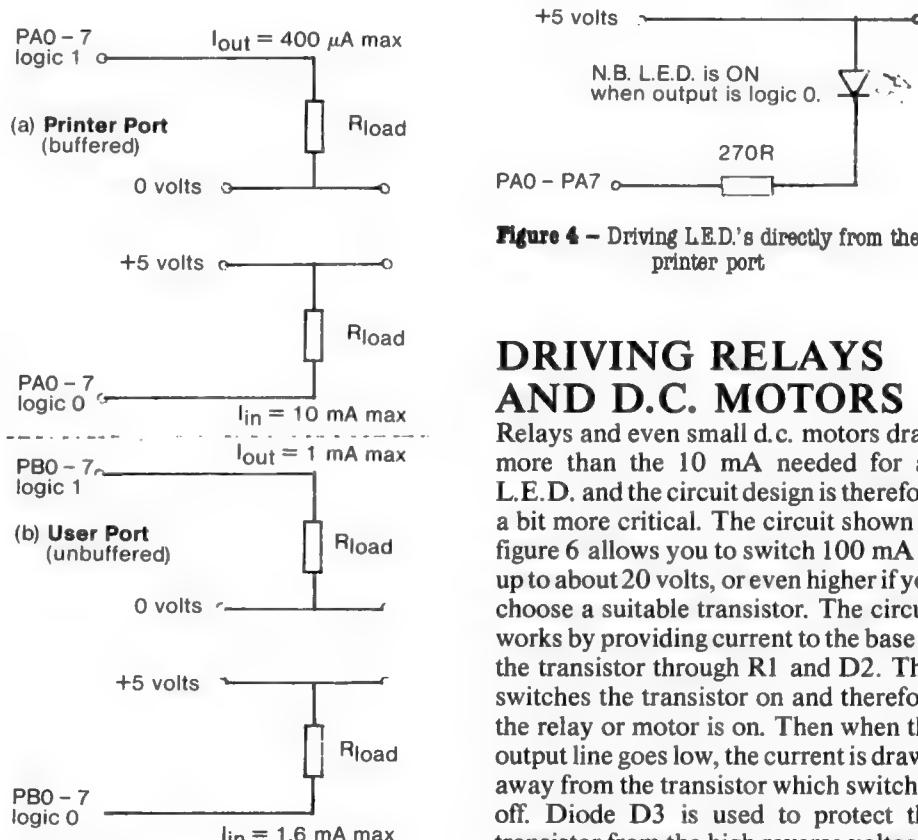

Figure 3 - Current capabilities of the printer and user ports
0) then the corresponding bit is an input. In the example given in figure 3, all of PA is being used for output, as of course in this machine it has to be, and this is done by putting 255 (&FF or binary 11111111) into DDRA. That is, all the bits of DDRA are set to 1, and this can be done from BASIC by saying